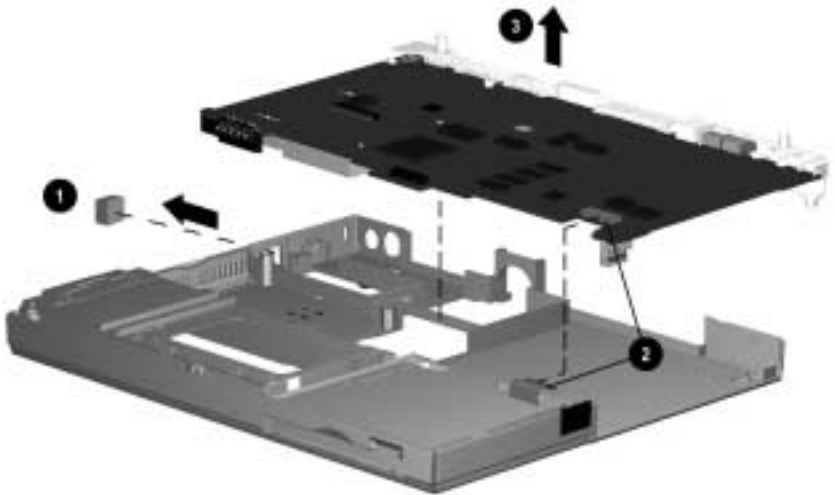

Figure 5-32. Removing the System Board
5. If installed, remove the RJ11 cover from the left side of the computer ❶ (Figure 5-32).
6. Disconnect the diskette drive LIF (low insertion force) cable from the system board ❷.
7. Remove the system board from the base assembly ❸.